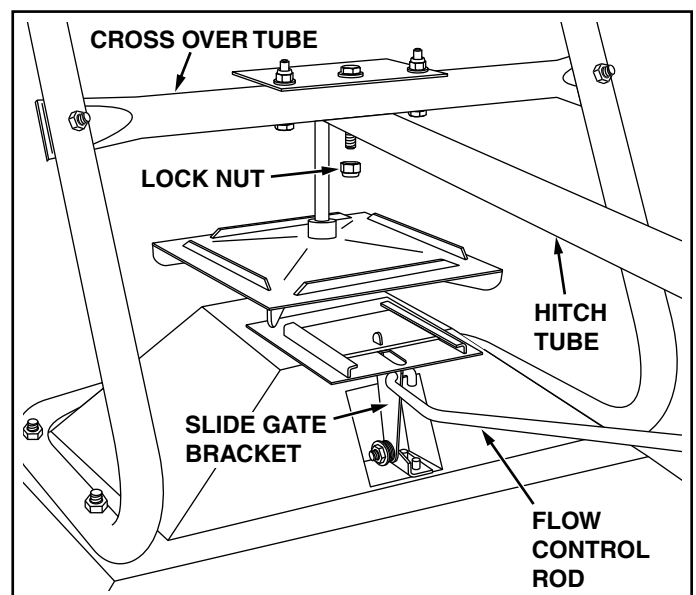

FIGURE 2
2. Hook the free end of the flow control rod through the hole in the slide gate bracket located near the bottom of the hopper. See figure 2.
3. Remove the lock nut from the middle bolt in the crossover tube and shaft support plate. Leave the bolt in place. See figure 2.
4. Assemble the hitch tube onto the middle bolt and secure it with the same lock nut you removed. **Do not tighten at this time.** See figure 2.